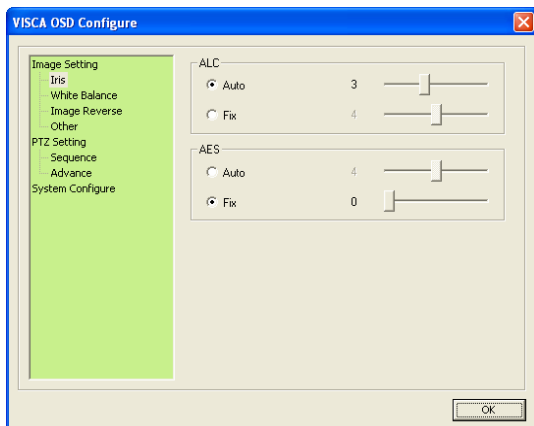

Figure 12-17
- **Load Camera Default:** Loads the factory default setting of Iris, White Balance, Image Reverse and Other in the VISCA OSD Configuration dialog box (Figure 12-17).